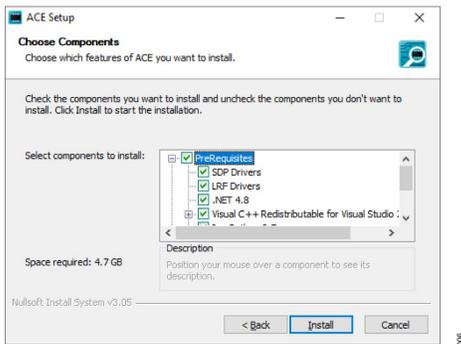

Figure 5. Drivers to Install with ACE Software
3. Install the latest version of the ACE software. During the installation, ensure that the PreRequisites boxes are selected for installation as well (see Figure 5).